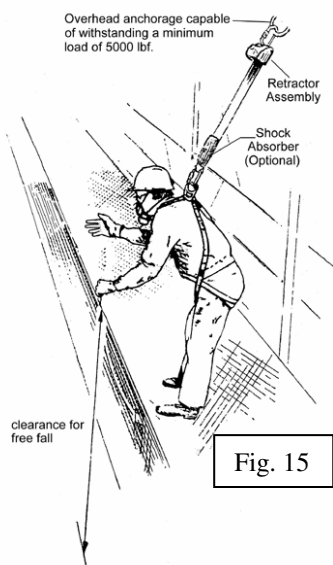

Fig. 15
- When used in conjunction with a Full Body Harness for fall arrest purposes, the unit must be connected with no obstructions, directly from an approved anchor point to the fall arrest attachment of the users harness (fig. 15).